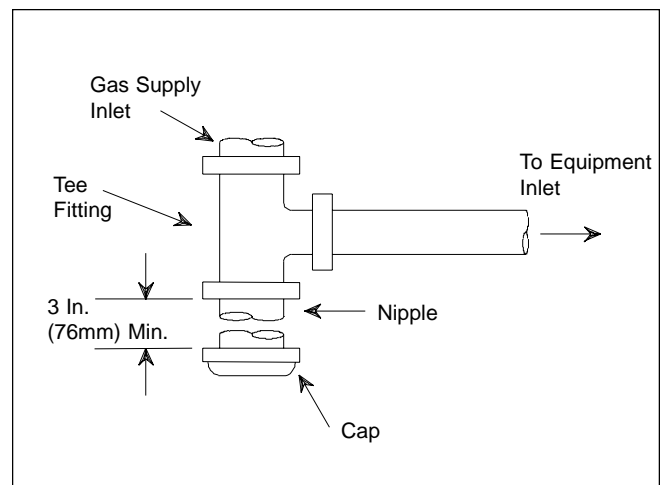

Figure 4. T-Fitting Sediment Trap Installation.
- Install a sediment trap (drip leg) ahead of the gas controls (see Figure 4). Fit the trap with a threaded cap which can be removed for cleaning.